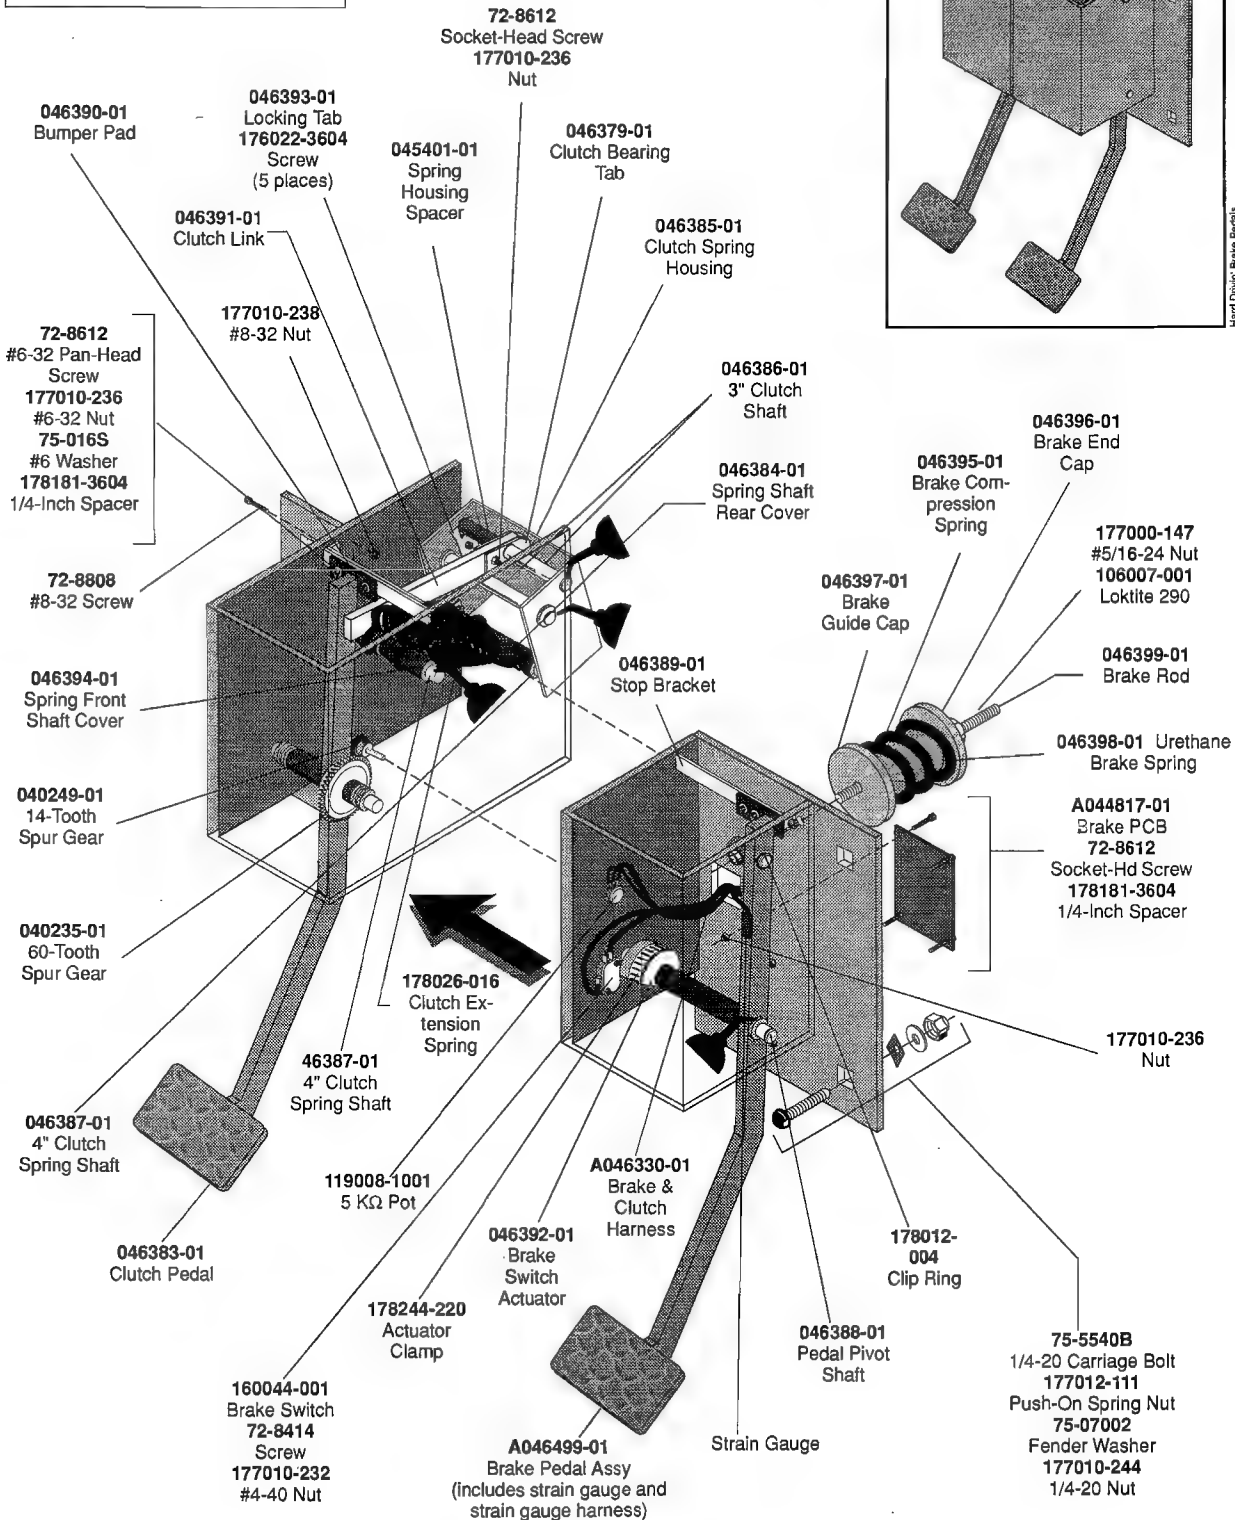

Figure 3-8 Maintaining the Clutch and Brake Assembly
5. Put light oil on the eight bearing points illustrated in Figure 3-8.
4. See Figure 3-8 for an illustration of the pedals. The clutch potentiometer is on the end of a small gear and is mounted on the brake side of the pedal assembly. Loosen the locknut on the potentiometer with a 1/2-inch flat wrench.
Replace the clutch springs if the clutch does not return to position and the springs are weak or broken. See Figure 3-8 for an illustration of the pedals. The clutch springs are the two large side-by-side metal springs.
4. See Figure 3-8 for an illustration of the pedal assembly. The brake switch is located on the inside wall, under the switch actuator. Check the following:
4. Disconnect the strain gauge wires from the Brake PCB. See Figure 3-8 for an illustration of the pedals.
Maintain the gas pedal assembly by lubricating at the points shown in Figure 3-8.
2. Lay the pedal assembly on the bench, with the extension spring pointing up at the back. See Figure 3-8 for an illustration of the pedal.